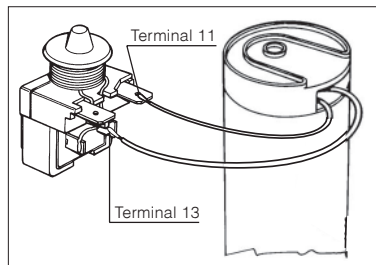

Figure 38 - Short relay with capacitor
- a) FG compressors for HST applications make it obligatory to use the starting capacitor and must be installed according to figure 38;